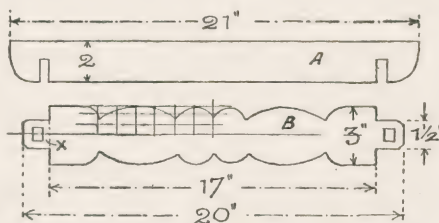
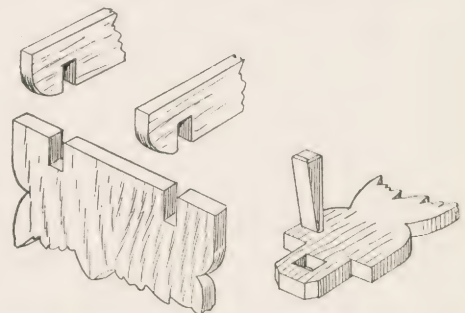

Fig. 2—Details of the rails
Fig. 3—The top rail fixing Fig. 4—How the wedges fit
The construction of the stool is shown in the details, Figs. 2, 3 and 4. There are two legs, having at their top edges two slots into which fit the pair of rails shown at A in Fig. 2. At Fig. 3 the rails are shown ready to be dropped into their corresponding slots.
At a distance of 6ins. up from the bottom of the legs are small mortises, into which fit the tenons of the cross-shaped rail B, Fig. 2. This rail is fastened in a real old-time style, by wedges inserted through holes made at the ends as detailed in Fig. 4.
The lower cross rail (B) in Fig. 2 has its shaping carried out in much the same way as the legs. One quarter of the outline is done direct, the remainder being finished with the carbon paper, using both the centre lines in the process of drawing.
Note the length of 17ins., and see the width between the dotted line at x, Fig. 2, and the edge of the square hole at each end of the rail is $\frac{3}{8}$ in. So when the legs are put on and the tenons pushed through, these will have clearance enough for the wedges to pull the parts closely and rigidly together.
We can now turn our attention to the shaping of the boats, of which 14 are required. They are cut from $\frac{1}{4}$ in. material $1\frac{1}{2}$ ins. long and $7/16$ in. wide. The forward boats, of which only two are required, are a little shorter. All of them can be nicely shaped up with knife and glasspaper, according to the curves shown in Fig. 3.